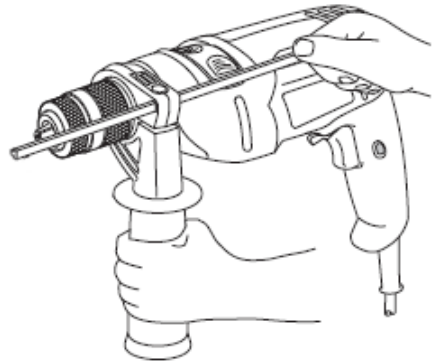

FIGURE 4
2. Set the depth gauge (Item 8 - figure 1) in the mounting hole as illustrated in figure 4. Set the desired drilling depth, tighten the handle support turning the handle clockwise.